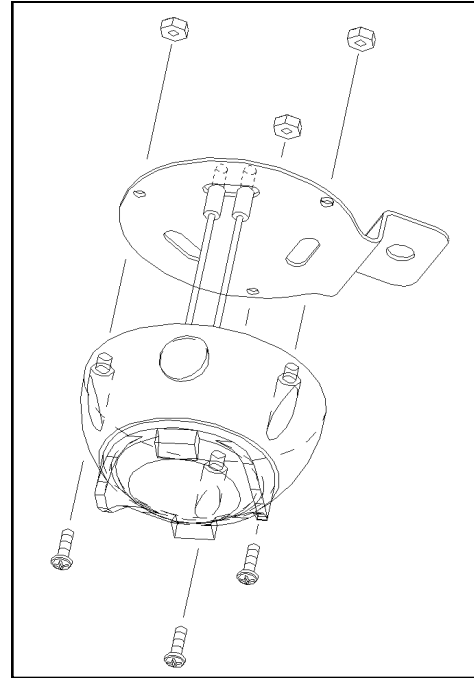

Fig. 1
1. Attach dome light to bracket using three #6-32 x 1/2" long screws and nuts provided. See fig. 1.